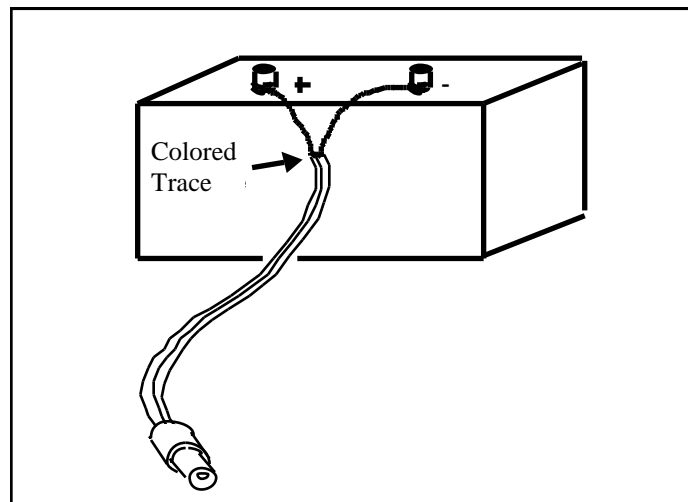

Figure 15. Wiring the power plug to a battery - the colored tracer goes to the + side of the supply.
1. □ The receiver requires 12 volts DC which may be obtained from an AC adapter, a well regulated power supply, or from a battery (Figures 15 and 16). Current drain is approximately 60 milliamps (ma). The Jameco® AC adapter (supplied with US orders) is the recommended power source for indoor use. Switching power supplies are not recommended as many of these units generate undesirable radio noise. A linear, regulated supply is preferred.
The kit is also supplied with a power cord that has a female plug on one end and stripped leads on the other end. This cord can be used to power the Jove receiver from a 12 volt regulated DC power supply or a 12 volt battery. Notice that the cord has a colored stripe or tracer, along one of the wires. This is the wire that is connected to the center conductor of the plug and must be connected to the (+) side of the power source (Figure 15).